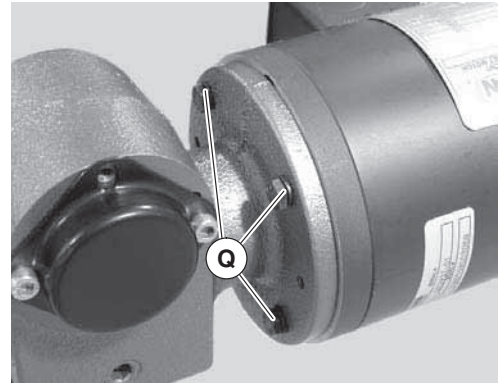

Figure 15
- Install screws (Figure 15, item Q) and tighten to 65 in-lbs (7.3 N-m).